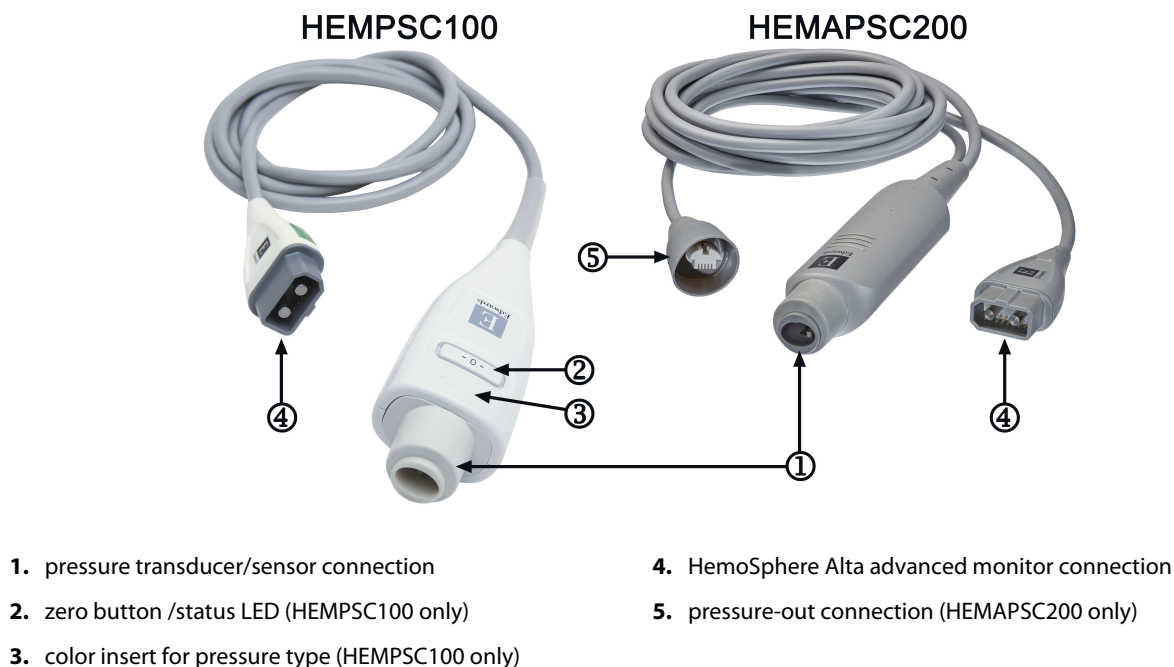

Figure 9-1: HemoSphere pressure cable
The HemoSphere pressure cable is a reusable device that connects with the HemoSphere Alta advanced monitor on one end (4) and any approved single Edwards disposable pressure transducer (DPT) or sensor on the other end (1). See Figure 9-1 on page 173. The HemoSphere pressure cable acquires and processes a single pressure signal from a compatible Edwards DPT, such as the TruWave DPT, or a FloTrac sensor. A FloTrac or Acumen IQ sensor connects to an existing arterial catheter to provide minimally invasive hemodynamic parameters. A TruWave transducer can connect to any compatible pressure monitoring catheter to provide location based intravascular pressure. Refer to the directions for use provided with each catheter for specific instructions on catheter placement and use, and for relevant warnings, cautions and notes. The connected technology type appears on the top of the parameter tile (see Figure 4-2 on page 89). The three technology types available are based on the paired sensor/transducer: **FloTrac** sensor, **FloTrac Jr** sensor, **Acumen IQ** sensor (**IQ Sensor**) or **TruWave** sensor. Parameters in the parameter configuration menu are categorized by technology. The appearance and connection points for the HemoSphere pressure cable are shown in Figure 9-1 on page 173.
Pressure Type Color Insert. If desired, the appropriate color insert can be used on the pressure cable to indicate the monitored pressure type (HemoSphere pressure cable only, HEMPSC100). See (3) in Figure 9-1 on page 173. The colors are as follows:
7. Use a straight in or out motion to connect the green connector of the primed FloTrac/FloTrac Jr sensor. The pressure cable LED that surrounds the zero button (see (2) in Figure 9-1 on page 173) will flash green indicating that the pressure sensor is detected. A yellow light indicates a fault condition. If this occurs refer to the status bar for specific fault condition details.
Press the physical zero button  directly on the pressure cable (HEMPSC100 only) and hold for three seconds (see Figure 9-1 on page 173).